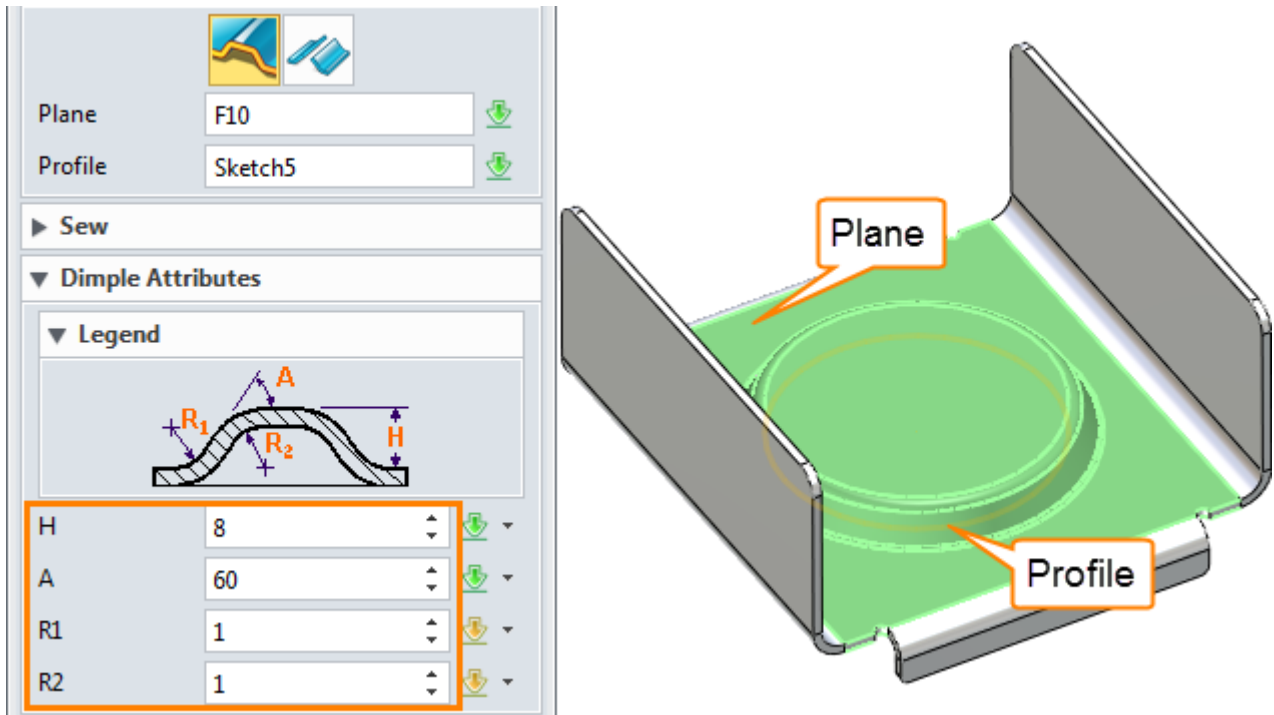

Figure73 Create Plain Dimple
STEP 03 Create a sketch in the dimple top face as shown in Figure 73.